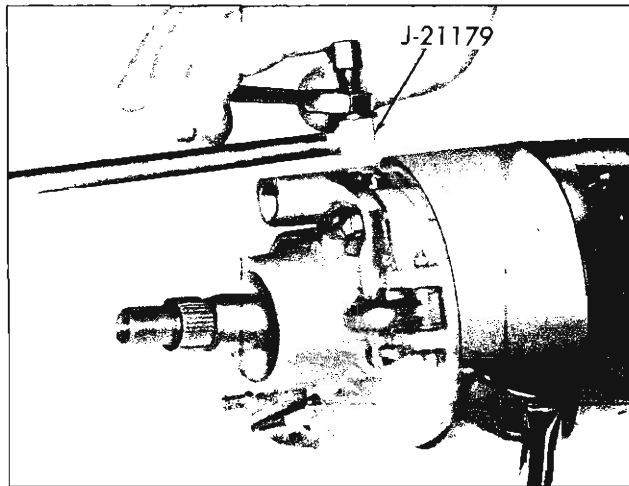

Fig. 22—Removal of Pivot Pins
10. Using Tool J-21179, remove the two pivot pins as follows: Install the nut and washer on the stud as shown and place the stud into the tool so it extends through the chamfered end of the hole in the tool. Position the tool between the locating bosses on the support assembly and thread the stud into the pivot pin. Hold the stud and turn the nut to remove the pin. Remove the second pin in the same manner (fig. 22).